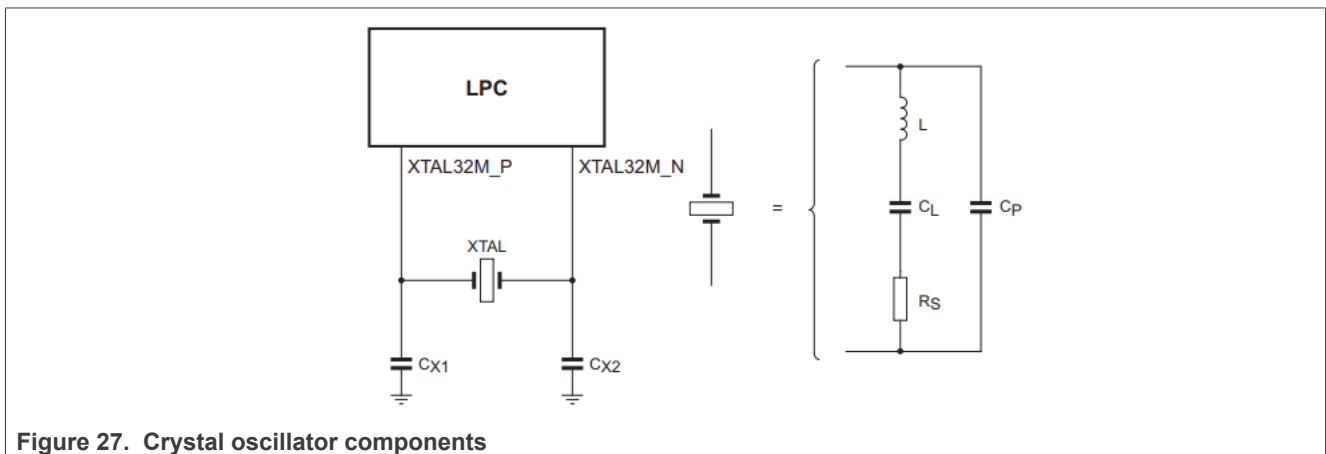

Figure 27. Crystal oscillator components
The crystal oscillator has embedded capacitor bank where it can be used as an integrated load capacitor for the crystal oscillators. The capacitor banks on each crystal pin can tune the frequency for crystals with a Capacitive Load (CL) between 6 to 10pF (IEC equivalent). Simple APIs to configure the Capacitor Banks based on the crystal Capacitive Load (CL) and measured PCB parasitic capacitances on XIN and XOUT pins. In the crystal oscillator circuit, only the crystal (XTAL) needs to be connected with the option to connect capacitances CX1 and CX2 on XTAL32M_P and XTAL32M_N pins. Depending upon the computation of the required Capacitance Load, there is no need to add some capacitance on PCB if computation is less than 20 pF (10 pF equivalent IEC), and if computation is greater than 20 pF (10 pF equivalent IEC), then additional capacitance is on PCB required. See Figure 27 and refer to the "Cap Bank API" chapter in the user manual. In bypass mode, an external clock (maximum frequency of up to 25 MHz) can also be connected to XTAL32M_P if XTAL32M_N is left open. External [0 – VH] square signal can be applied on the XTAL32M_P pin from 0 V to 850 mV.